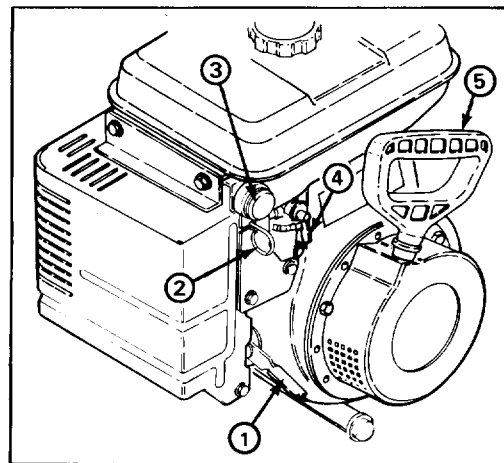

Figure 10
Throttle (Fig. 10) — Moving the throttle upward increases the engine speed.
Choke (Fig. 10) — Choke is located on back of engine cover. Pull choke out to HALF or FULL choke position to start a cold engine. As engine warms up, push choke in gradually to OFF.
Primer (Fig. 10) — Push primer in to pump small amount of gasoline into engine for improved cold weather starting.
Fuel Shut-Off Valve (Fig. 10)–Valve is located under fuel tank. Close valve to stop fuel flow from fuel tank and open valve to allow fuel to flow to the carburetor. Close valve when snowthrower is not used. Valve is open when in the vertical position as shown.
Recoil Starter (Fig. 10) — Recoil starter is on back side of engine. Pull recoil starter to start engine.
2. Open fuel shut-off valve below fuel tank (Fig. 10).
3. Pull choke out to half choke position when temperature is above 0°F. and to full choke position when temperature is below 0°F. (Fig. 10).
5. Push primer (Fig. 10) twice if temperature is below 10°F. (Priming more than twice may cause fuel to spill from carburetor.)
6. Grasp recoil starter handle (Fig. 10) and pull it out slowly until positive engagement results; then pull vigorously to start the engine. Keep firm grip on starter handle and return the rope slowly.
7. After engine starts gradually push choke in (Fig. 10).